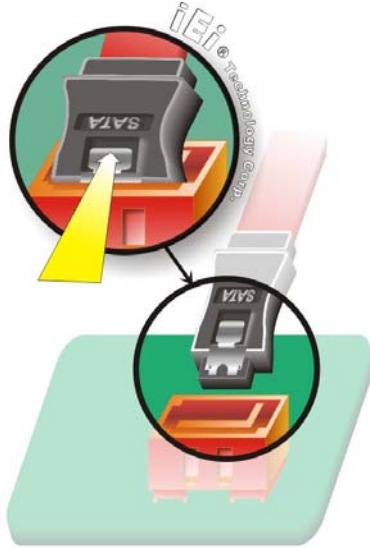

Figure 4-9: SATA Drive Cable Connection
Step 2: Insert the cable connector. Press the clip on the connector at the end of the SATA cable and insert the cable connector into the on-board SATA drive connector. See **Figure 4-9**.